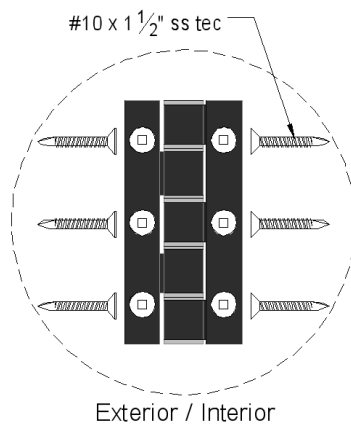

FIG 5.
- c) Attach interior hinges as per FIG 5.
- e) Attach top roller to the panel first, ensuring that the panel is level and straight with panel one. Then attach bottom roller, once both rollers have been installed attach middle hinges in between as per FIG 5.
- d) Attach the middle hinges as per FIG 5.
- c) Attach interior hinges using screws provided as per Fig 5.